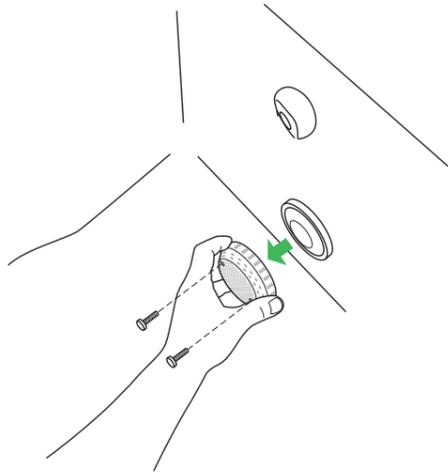

Figure 1
3. Remove the suction inlet screen and clean it separately. See Figure 1.